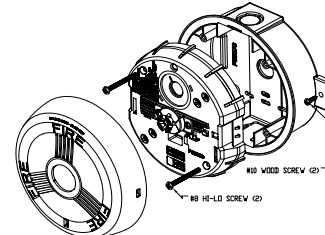
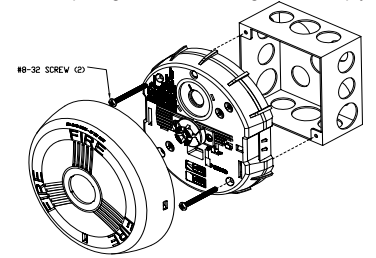
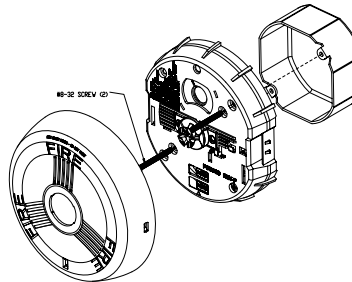

Figure 5: Ceiling Horn Strobe with LSPKBB Surface Mounting Box
Figure 6: Horn Strobe Installation with 4" Backbox
Figure 7: Horn Strobe Installation with Octal Backbox
- Install device as shown in Figure 5, Figure 6, or Figure 7 (4" square backbox or octal) with the screws provided.